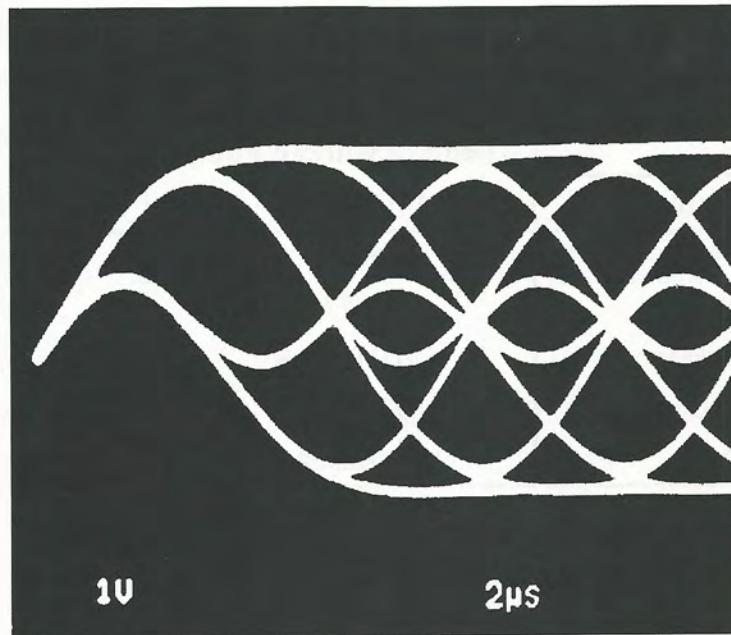

Figure 5-2
- 4a. Apply power to the encoder and observe ENCODE DATA OUT (rear panel BNC connector) on the oscilloscope. Adjust R138 OUTPUT LEVEL ADJ to obtain the level shown in Table 5-5 for the appropriate data rate and efficiency mode. The waveform should resemble the signal shown in Figure 5-2.